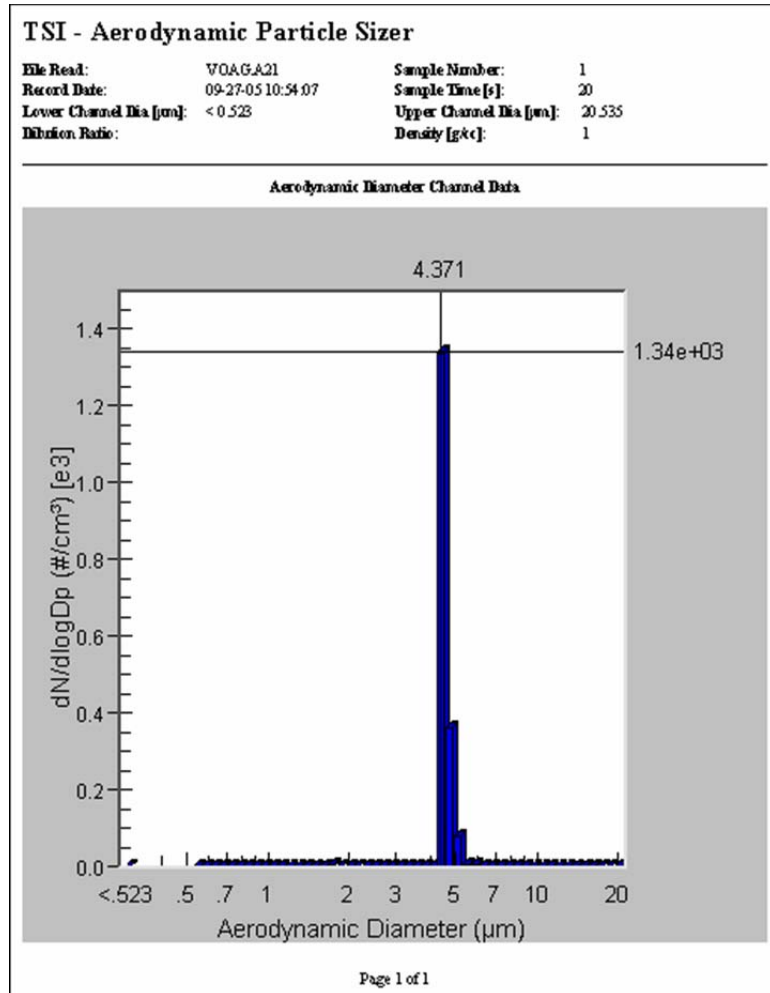

Figure 3-4
2. Review that what you see in the print preview window is what you want to print (an example is shown in Figure 3-4), and then